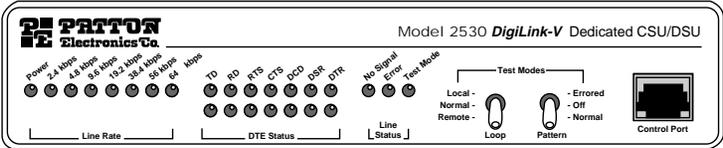

Figure 5. Model 2530 Front Panel Installation of Model
The Model 2530 features twenty-four (24) front panel LEDs that monitor the line rate, power, the DTE signals, the network connection and test modes. Figure 5 (below) shows the front panel location of each LED. Following Figure 5 is a description of each LEDs function.